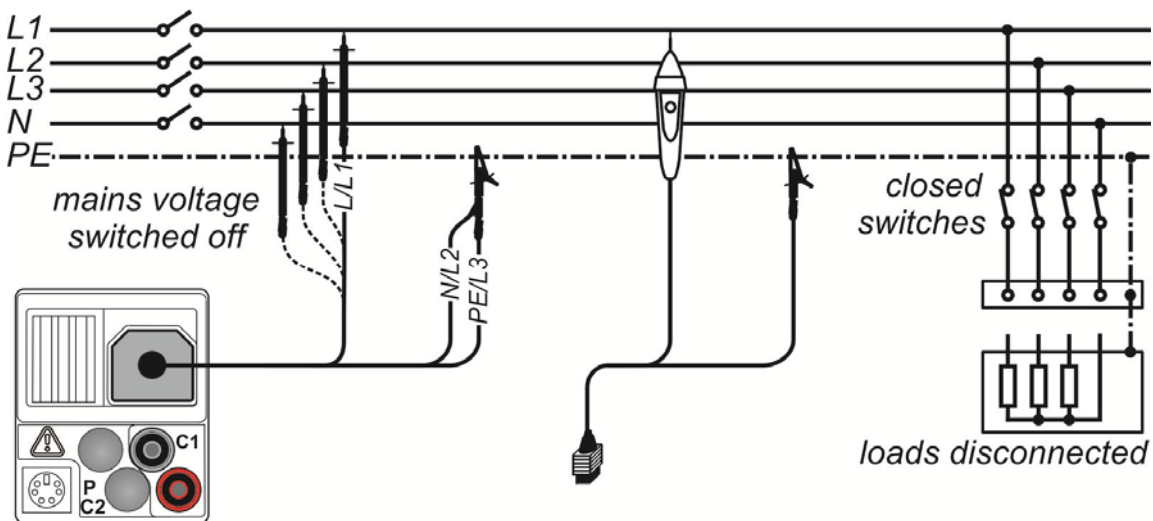
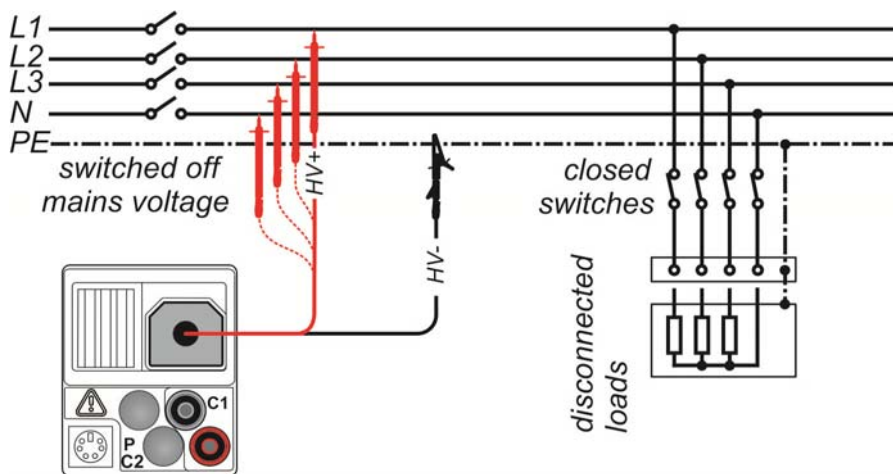

Figure 5.6: Connection of 3-wire test lead and tip commander ($U_N \leq 1 \text{ kV}$)
Figure 5.7: Connection of 2.5 kV test lead ($U_N = 2.5 \text{ kV}$)
- ❑ **Connect** test cable to the instrument and to the item to be tested (see *Figure 5.6 and Figure 5.7*).